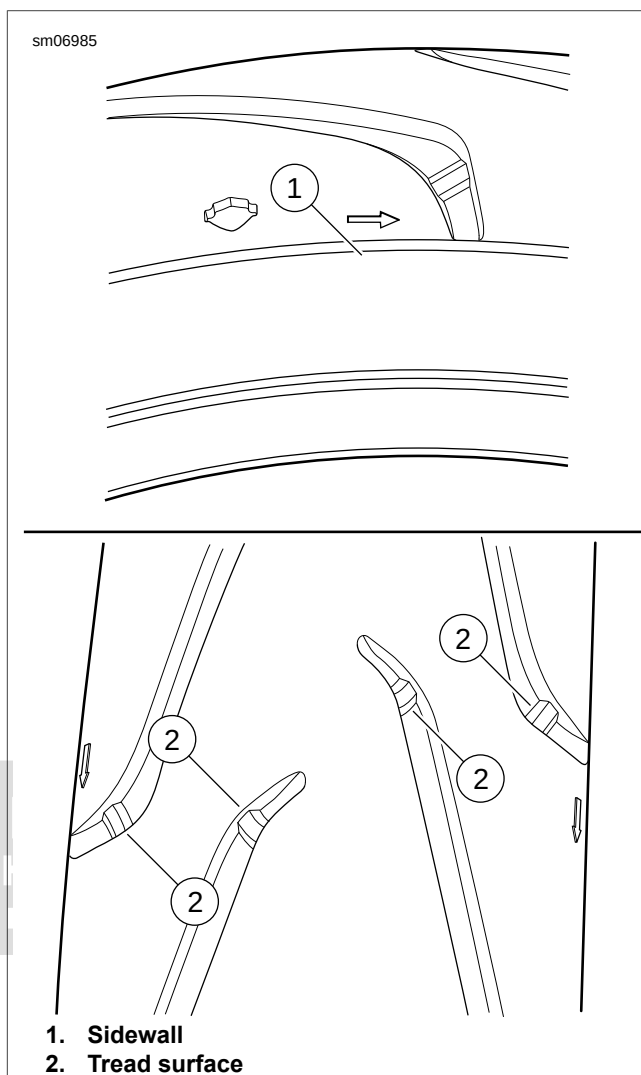

Figure 2-73. Tread Wear Indicators (typical)
- See Figure 2-73. The tread wear indicator bars will appear on tire tread surfaces when 0.8 mm (1/32 in) or less of tread remains. Always remove tires from service before they reach the tread wear indicator bars.